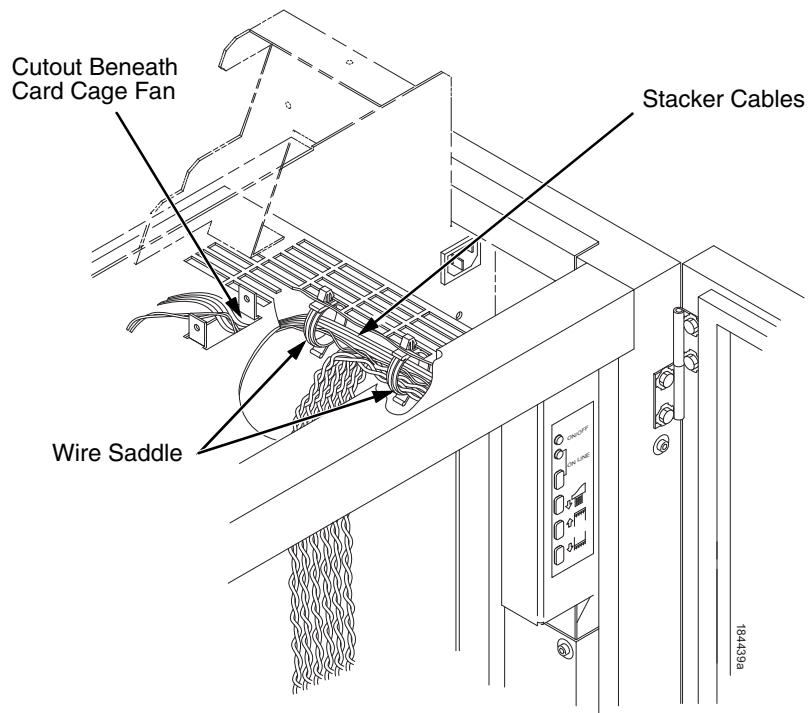

Figure 89. Securing Stacker Cables
32. Bundle the stacker control panel cables in the wire saddles located under the card cage. Tie wrap the cables so they do not catch in the stacker mechanism as it moves up and down. Route the stacker rail and frame cables so they move without snagging as the elevator assembly moves up and down. (Figure 89.)